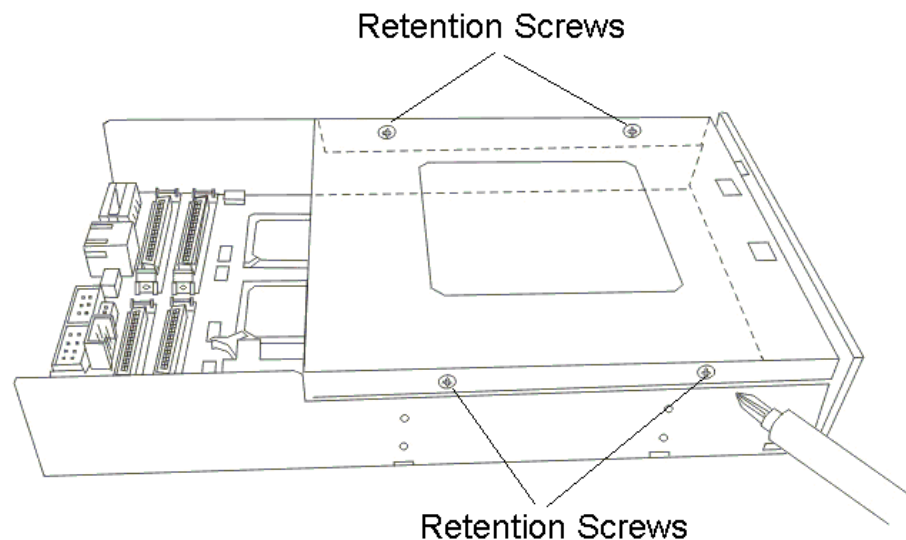

Figure 2-1: Remove the top cover
- ◆ **Removing the top cover:** The chassis top cover is secured to the chassis with four retention screws (two on each side). To remove the top cover, remove these four retention screws (see **Figure 2-1**). Once they have been removed, gently lift the top cover up to expose the controller board.